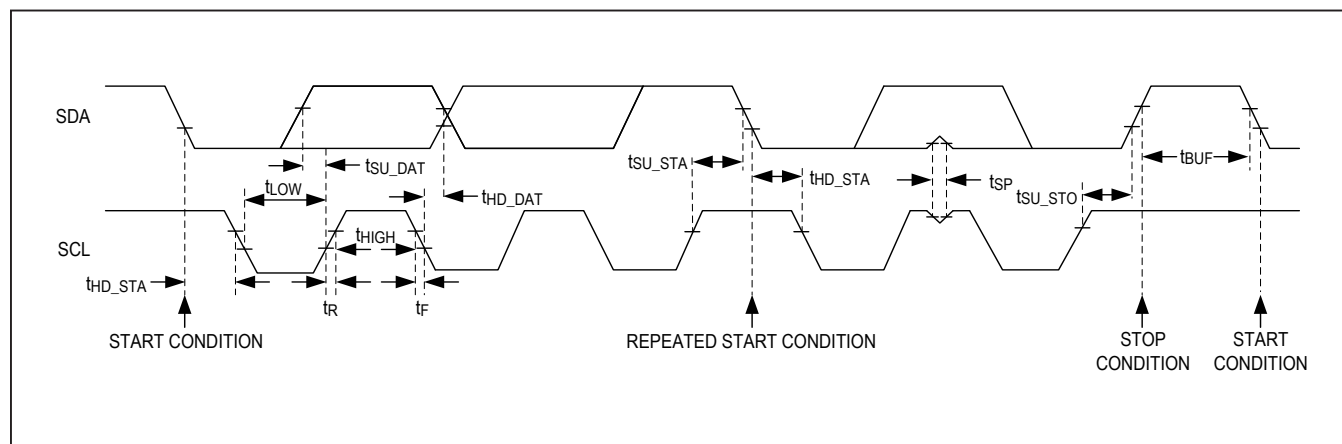

Figure 3. Detailed I2C Timing Diagram
The MAX30208 features an I2C/SMBus-compatible, 2-wire serial interface consisting of a serial data line (SDA) and a serial clock line (SCL). SDA and SCL facilitate communication between the MAX30208 and the master at clock rates up to 400kHz. Figure 3 shows the 2-wire interface timing diagram. The master generates SCL and initiates data transfer on the bus. The master device writes data to the MAX30208 by transmitting the proper slave address followed by the register address and then the data word. Each transmit sequence is framed by a START (S) or REPEATED START (Sr) condition and a STOP (P) condition. Each word transmitted to the MAX30208 is 8-bits long and is followed by an acknowledge clock pulse. A master reading data from the MAX30208 transmits the proper slave address followed by a series of nine SCL pulses. The MAX30208 transmits data on SDA in sync with the master-generated SCL pulses. The master acknowledges receipt of each byte of data. Each read sequence is framed by a START (S) or REPEATED START (Sr) condition, a not acknowledge, and a STOP (P) condition. SDA operates as both an input and an open-drain output. A pullup resistor is required on SDA. SCL operates only as an input. A pullup resistor is required on SCL if there are multiple masters on
The detailed timing diagram is shown in Figure 3.